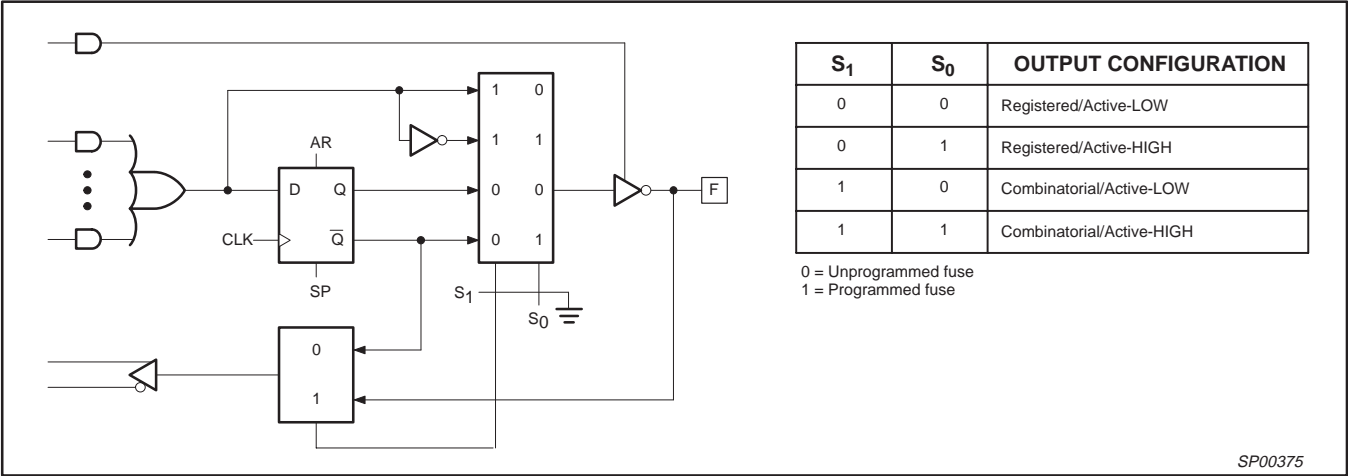

Figure 2. Output Macro Cell Logic Diagram
registered output or combinatorial I/O, Active-HIGH or Active-LOW (see Figure 2). The configuration choice is made according to the user's design specification and corresponding programming of the configuration bits $S_0 - S_1$. Multiplexer controls are connected to ground (0) through a programmable fuse link, selecting the "0" path through the multiplexer. Programming the fuse disconnects the control line from GND and it floats to V_{CC} (1), selecting the "1" path.